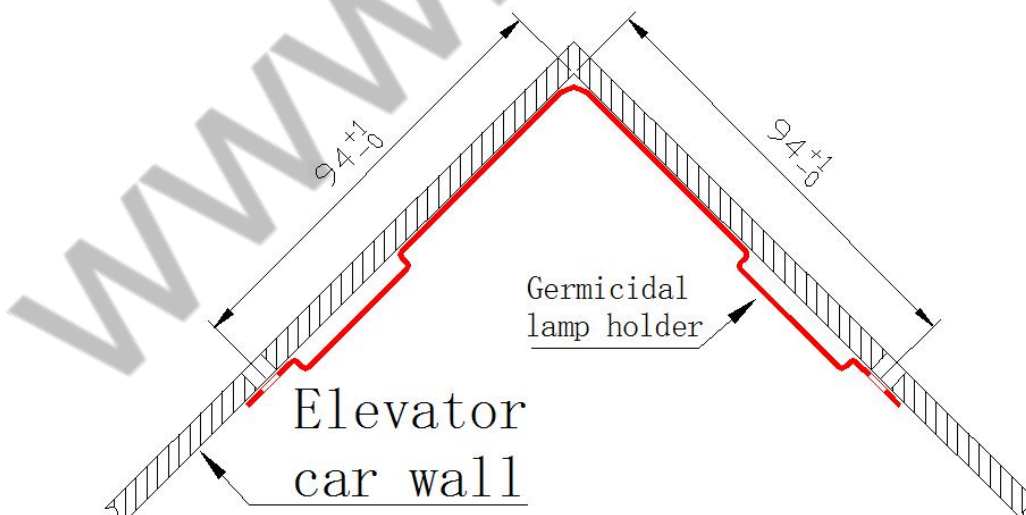
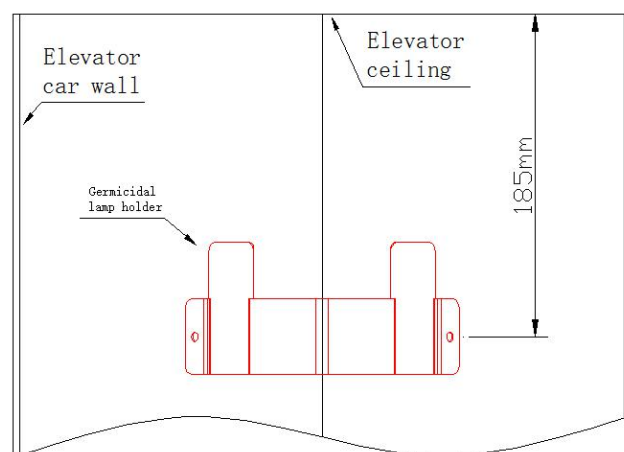

figure 7
figure8
- b. BThe sterilization lamp pendant is mounted on theThe position of the diagonal 90 of the elevatorcarwall is shown in (figure 7) , Distance Suspended ceiling185mm(figure8).WithDistance PalanquinWall94mmOh, honeyCross point , One on each side $\phi 10$ mmOh, honeyBolt hole for pendant。Bacteria lamp can also be used 3m double-sided adhesive with the whole car wall adhesive fixed.